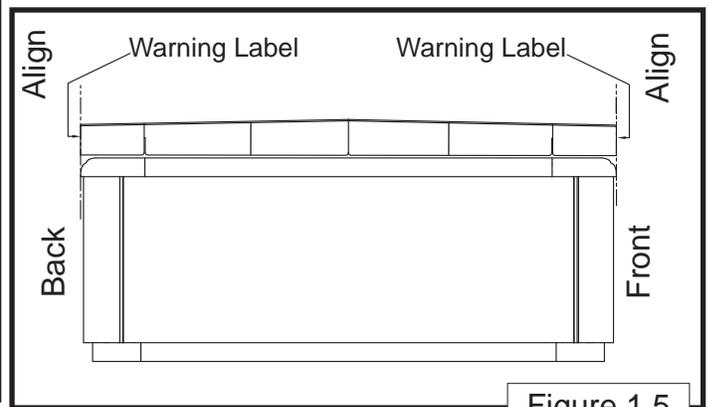

Figure 1.5
- The cover will fold from the middle towards each end (either the back or the front) (Figure 1.5).
- 2b. Position the cover evenly on all EP swim pool sides. See (Figure 1.5).